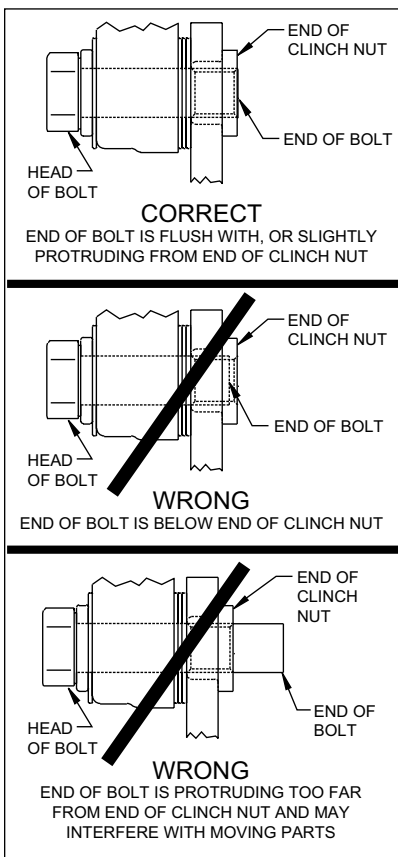

Figure 5. Clinch Nut Engagement Diagram
CAUTION: All mounting bolts must fully engage clinch nuts. Be sure to check that all bolts are either flush or protruding through flanged side of clinch nut after shimming, Figure 5.
•**NOTE:** Please reference the caution statement at the beginning of the assembly instructions. Mount the caliper (5) onto the caliper mounting bracket (1) using two bolts (11) and two washers (12). View the rotor (6) through the top of the caliper (5). The rotor (6) should be aligned in the center of the caliper (5). If not, loosen the two bolts (11) and adjust the caliper (5) by using 0.035 inch thick shim washers (10). The shim washers (10) should be placed between the caliper (5) and the caliper mounting bracket (1). Finger tighten and recheck alignment. **NOTE:** The end of the bolt must be flush with or slightly protruding from the head of the clinch nut. See Figure 5. Place spare shims (10) between washer and caliper mounting ear to